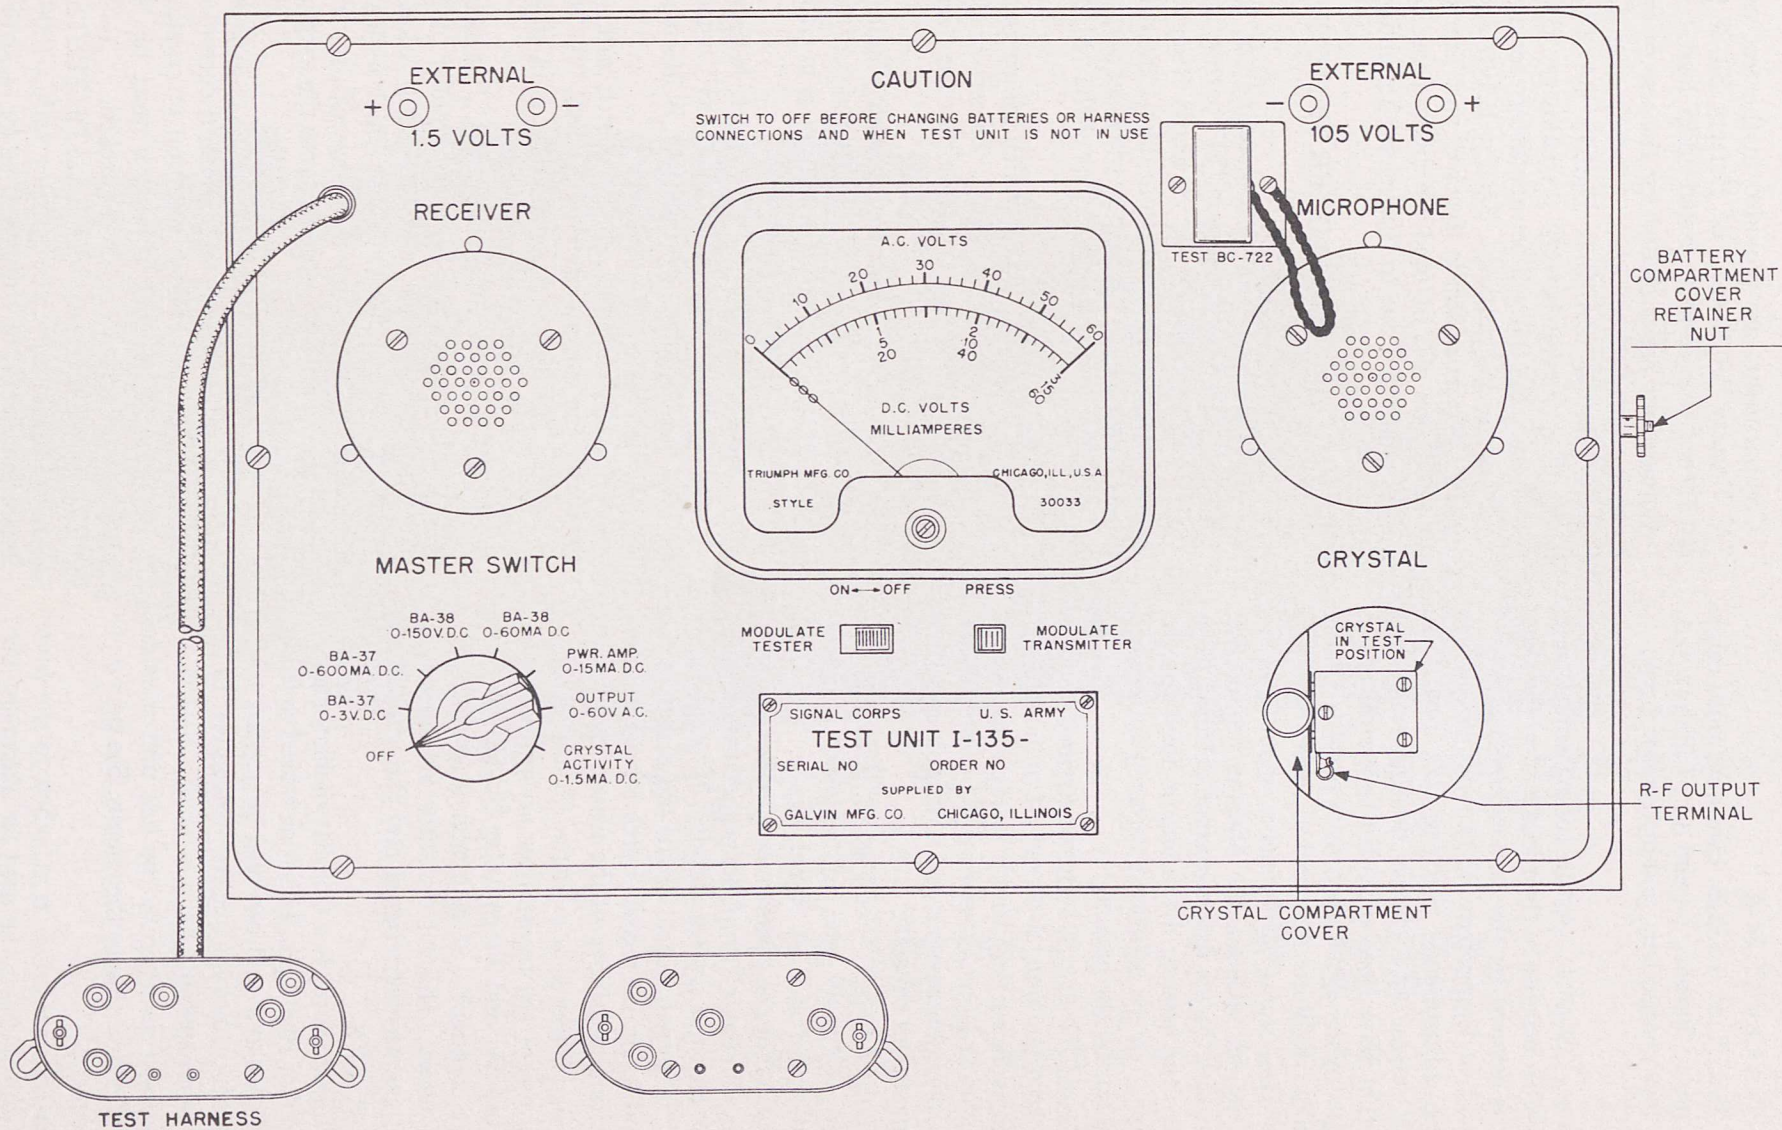

FIG. 13. TEST UNIT I-135-B
d. Test Unit I-135-B.—See Fig. 13. This unit is a multi-range voltmeter and milliammeter, a crystal tester, and an r-f and a-f signal source. Test Unit I-135-B is used for the measurement of battery voltage, battery current, r-f amplifier plate current, audio output voltage, and crystal activity. It is used as a modulated r-f signal source for the alignment of the receiver and as an a-f signal source for determining the modulation capability of the transmitter.
(1) Remove the chassis of Radio Receiver and Transmitter BC-721-B to be aligned from its housing. To do this, unlatch the bottom cover of the housing and remove the batteries. These batteries should be placed aside for test. Then disconnect the microphone and earphone plugs from the terminal board on the end of the chassis. Now remove the screw in the top cover of the housing and the chassis will slide out of the bottom of the housing.
(2) Remove the transmitter crystal from the chassis or use an extra crystal of the exact carrier frequency and place it in the crystal socket in the front panel compartment of the test unit. See Figure 13. Set the "MASTER SWITCH" of the test unit to the "OFF" position.
(3) Place the chassis into Test Case CS-81-A housing. The chassis must be inserted into the test case through the bottom as is done when inserting the chassis into its own housing. Take care that the chassis fits between the guides provided for it in the case. It should not be necessary to force the chassis. If force is necessary, withdraw the chassis and check to see that no parts are catching on the test case or that the chassis has not jumped the guides. Slip the top cover over the antenna rod and fasten the chassis to it with the knurled mounting screw provided. The chassis will now be held securely in the test case. *Now remove the plate current meter jumper from the terminal board at the end of the chassis.*